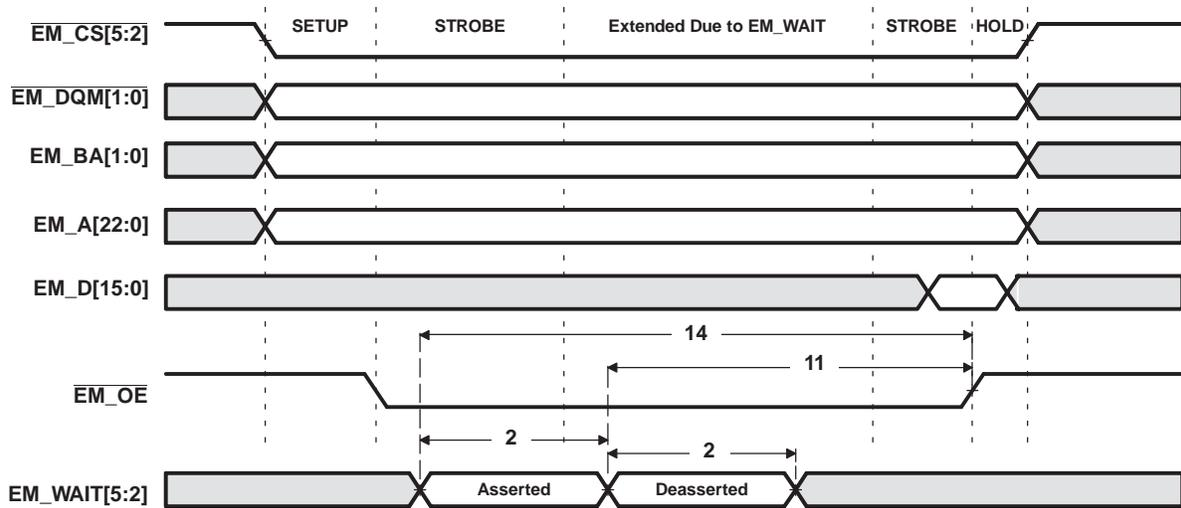
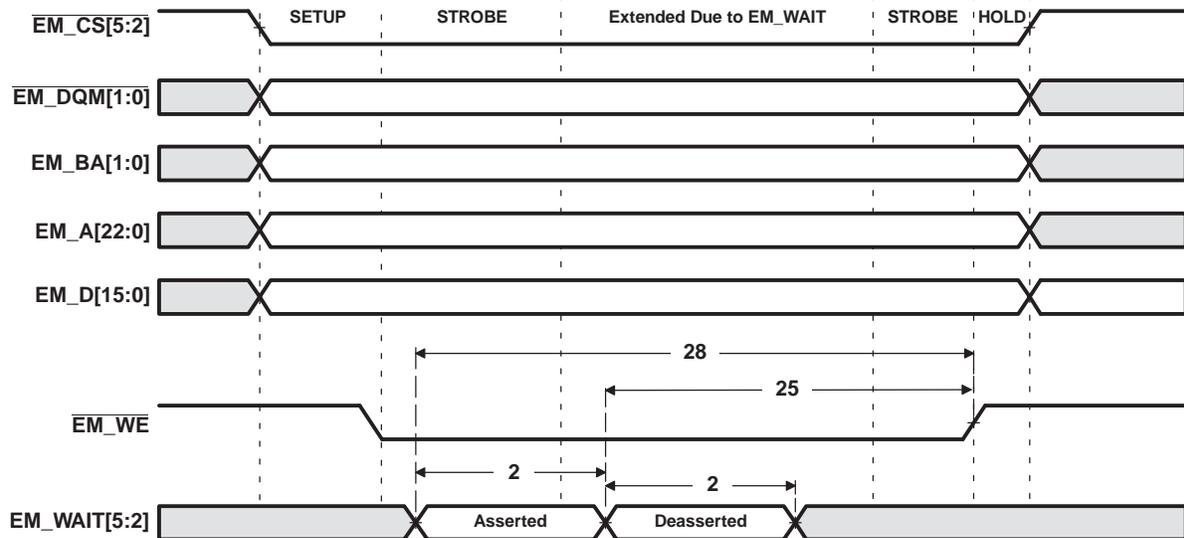

Figure 7-23. EM_WAITx Read Timing Requirements
Figure 7-24. EM_WAITx Write Timing Requirements
(1) E = SYSCLK3 period in ns for EMIFA. For example, when running the DSP CPU at 1 GHz, use E = 4 ns.
(2) Setup before end of STROBE phase (if no extended wait states are inserted) by which EM_WAITx must be asserted to add extended wait states. Figure 7-23 and Figure 7-24 describe EMIF transactions that include extended wait states inserted during the STROBE phase. However, cycles inserted as part of this extended wait period should not be counted; the 4E requirement is to the start of where the HOLD phase would begin if there were no extended wait cycles.